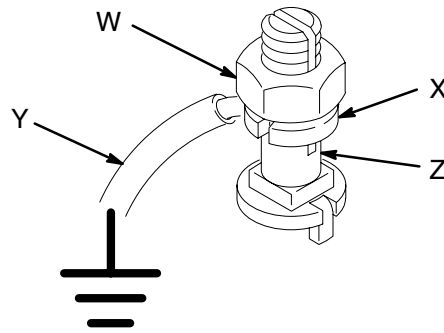

Fig. 2
All other Pumps: use a ground wire and clamp. See Fig. 2. Loosen the grounding lug locknut (W) and washer (X). Insert one end of a 1.5 mm² (12 ga) minimum ground wire (Y) into the slot in lug (Z) and tighten the locknut securely. Connect the other end of the wire to a true earth ground. Order Part No. 222011 Ground Wire and Clamp.